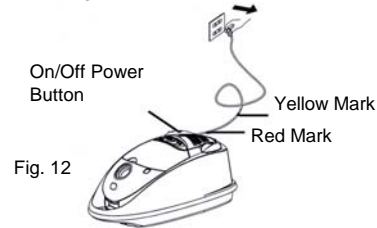

Fig. 12
2. Press the Power On/Off button located on the unit to turn the vacuum cleaner "On". (Fig. 12)
**Note:** Once all attachments are in place, unwind a sufficient length of cable and insert the plug into the wall outlet. A yellow mark on the power cord shows the ideal cable length. Don't pull the power cord beyond the red mark. (Fig. 12)
Your vacuum cleaner includes a power cord which is automatically retractable. To extend your power cord, pull from rear and extend to desired length up to the yellow mark on the power cord. (Fig. 12) Do not pull the power cord beyond the red mark. When vacuuming is finished, first switch off power and disconnect plug from electrical outlet. Then press on cord rewind button. If the cord does not fully retract, pull it out again and then press on cord rewind button.